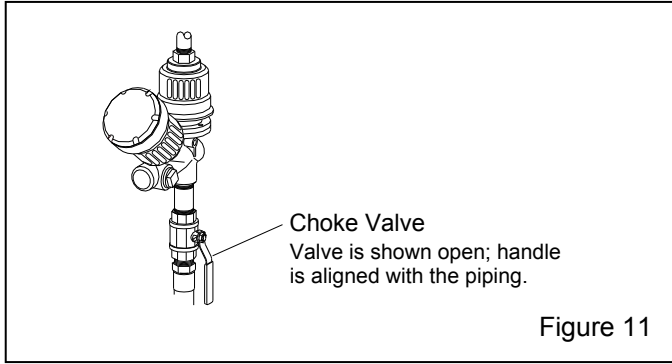

Figure 11
3.5 Operation and Function of the Choke Valve Refer to Figure 11
3.5.1 Always fully open the choke valve while blasting; open is when the handle is vertical and aligned with the piping as shown in Figure 11.